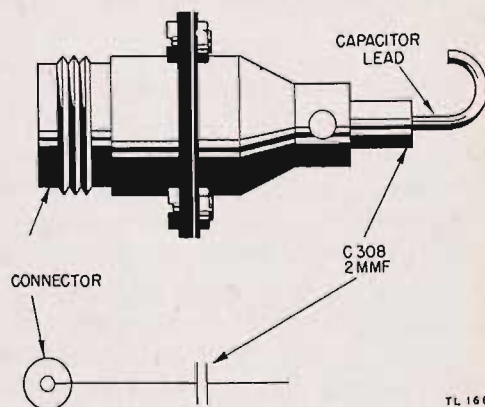

Figure 114. I-f adaptor, sketch and schematic diagram.
a. General. Test Oscillator TS-237/TRC-8 (XC-3) is a crystal-controlled signal generator designed to provide harmonic output for aligning the r-f and i-f stages of the receiver (fig. 15). A single Tube JAN-6AG5 (fig. 141) is used in conjunction with a 5-mc crystal to provide harmonic frequencies of 30 mc for i-f alignment as well as harmonic output of 230 to 250 mc in 5-mc steps for r-f alignment. No tuning controls are provided as the oscillator operates at the fundamental frequency of the crystal and all available output frequencies are harmonics, or multiples, of 5 mc. An output cord, Radio Frequency Cable RG-8/U, is provided which plugs into the ANTENNA receptacle on the receiver front panel for r-f alignment. An adapter (fig. 114) is provided for i-f alignment. A plug, P301, flush-mounted on the oscillator case, engages the TEST OSC. receptacle on the receiver front panel and thus draws heater and plate power from the receiver.